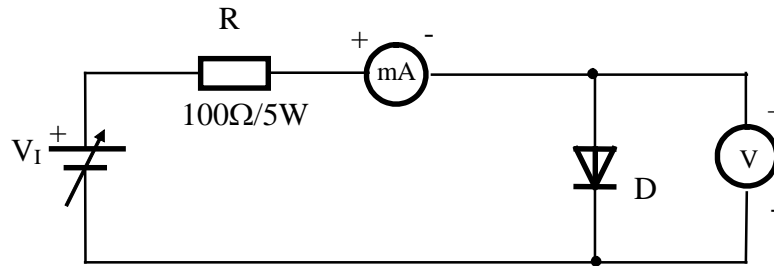

Fig. 7. Arrangement for plotting the diode terminal characteristic
- Replace the positive voltage source  $V_I$  from the schematic in Fig. 7 with a negative voltage source  $(-20, 0)$  [V].